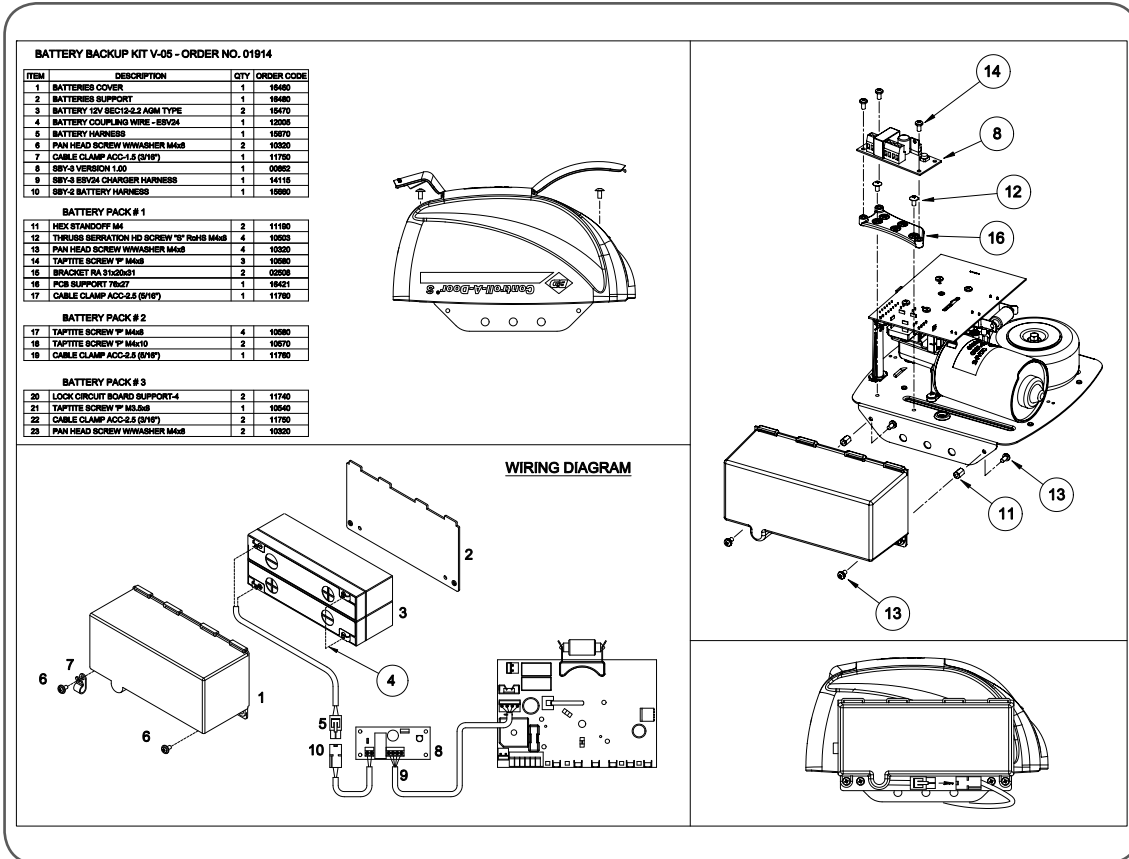

Fig. 39
2. Remove screws and swing the cover open (Fig. 39).
3. Use battery pack # 1. Mount battery pack and secure with item 11 and 13.
4. Mount the pcb support item 16 on to chassis with item 12 and install the SBY-3 item 8 Charger Board on to the pcb support with item 14 screws.
5. Feed the 2-wire battery harness item 10, through the grommet on the base plate and connect to the SBY-3.
7. Connect item 5 and 10 together (Fig 39).